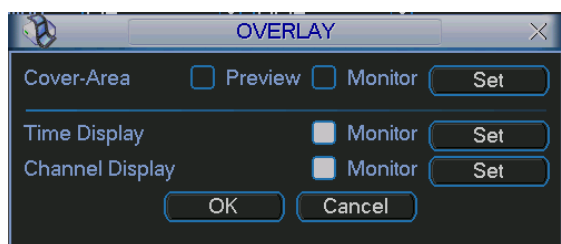

Figure 5-9
- z Overlay: Click overlay button, you can see an interface is shown in Figure 5-9.